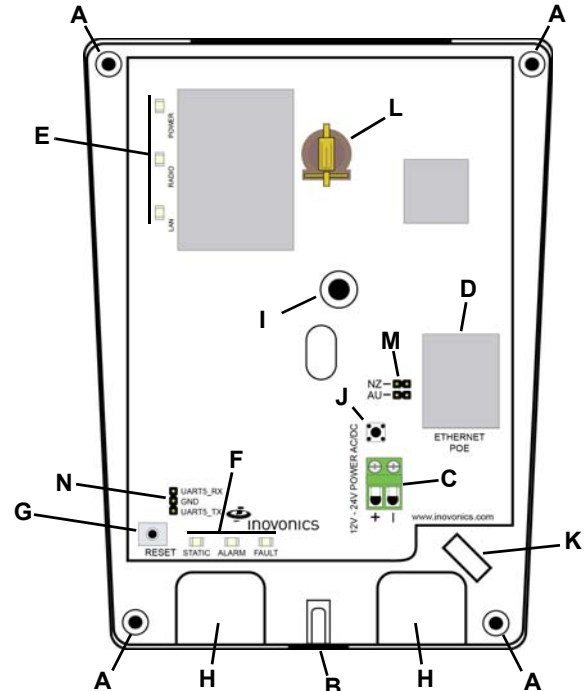

Figure 3 EN6080 area control gateway internal components
1. Use a Phillips screwdriver to loosen the housing cover release screw (Figure 3).
3. Route the power cabling through the cabling ports on the bottom of the housing (Figure 3).
5. Insert the memory backup battery in the battery holder (Figure 3).
7. Connect one end of a RJ45 Ethernet cable to the RJ45 Ethernet jack on the EN6080 area control gateway (Figure 3).
8. Route the Ethernet cable through the cabling ports on the bottom of the housing (Figure 3).
10. To relieve stress on the Ethernet and power cabling, secure it to the cabling tie loop with a tie (Figure 3).
12. Use four of the provided screws to mount the EN6080 area control gateway, making sure the EN6080 area control gateway is flush with the wall (Figure 3).
13. Attach one of the provided screws to the wall through the wall tamper mounting hole (Figure 3).
14. Check that the housing tamper spring is in place and makes contact with the top of the housing (Figure 3).
4. Remove the selection jumper from the bottom two factory reset pins, marked GND and UART5_TX (Figure 3).
7. Press and release the reset button (Figure 3).